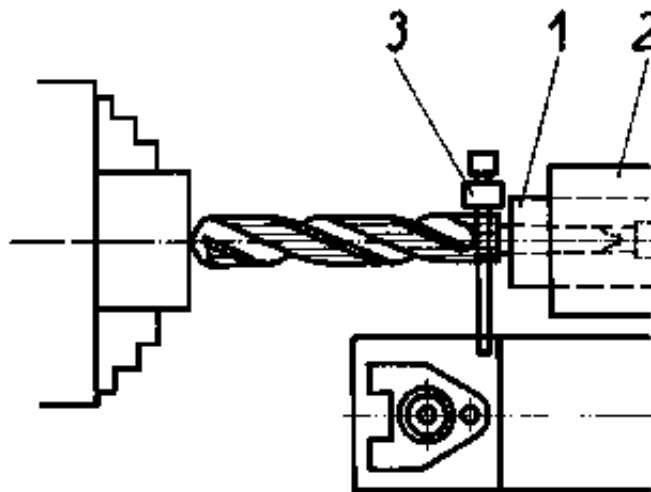

Figure 29 Protection by driver
- **Bigger drills can be protected against distortion by attaching a driver (lathe dog) as per Fig. 29.**